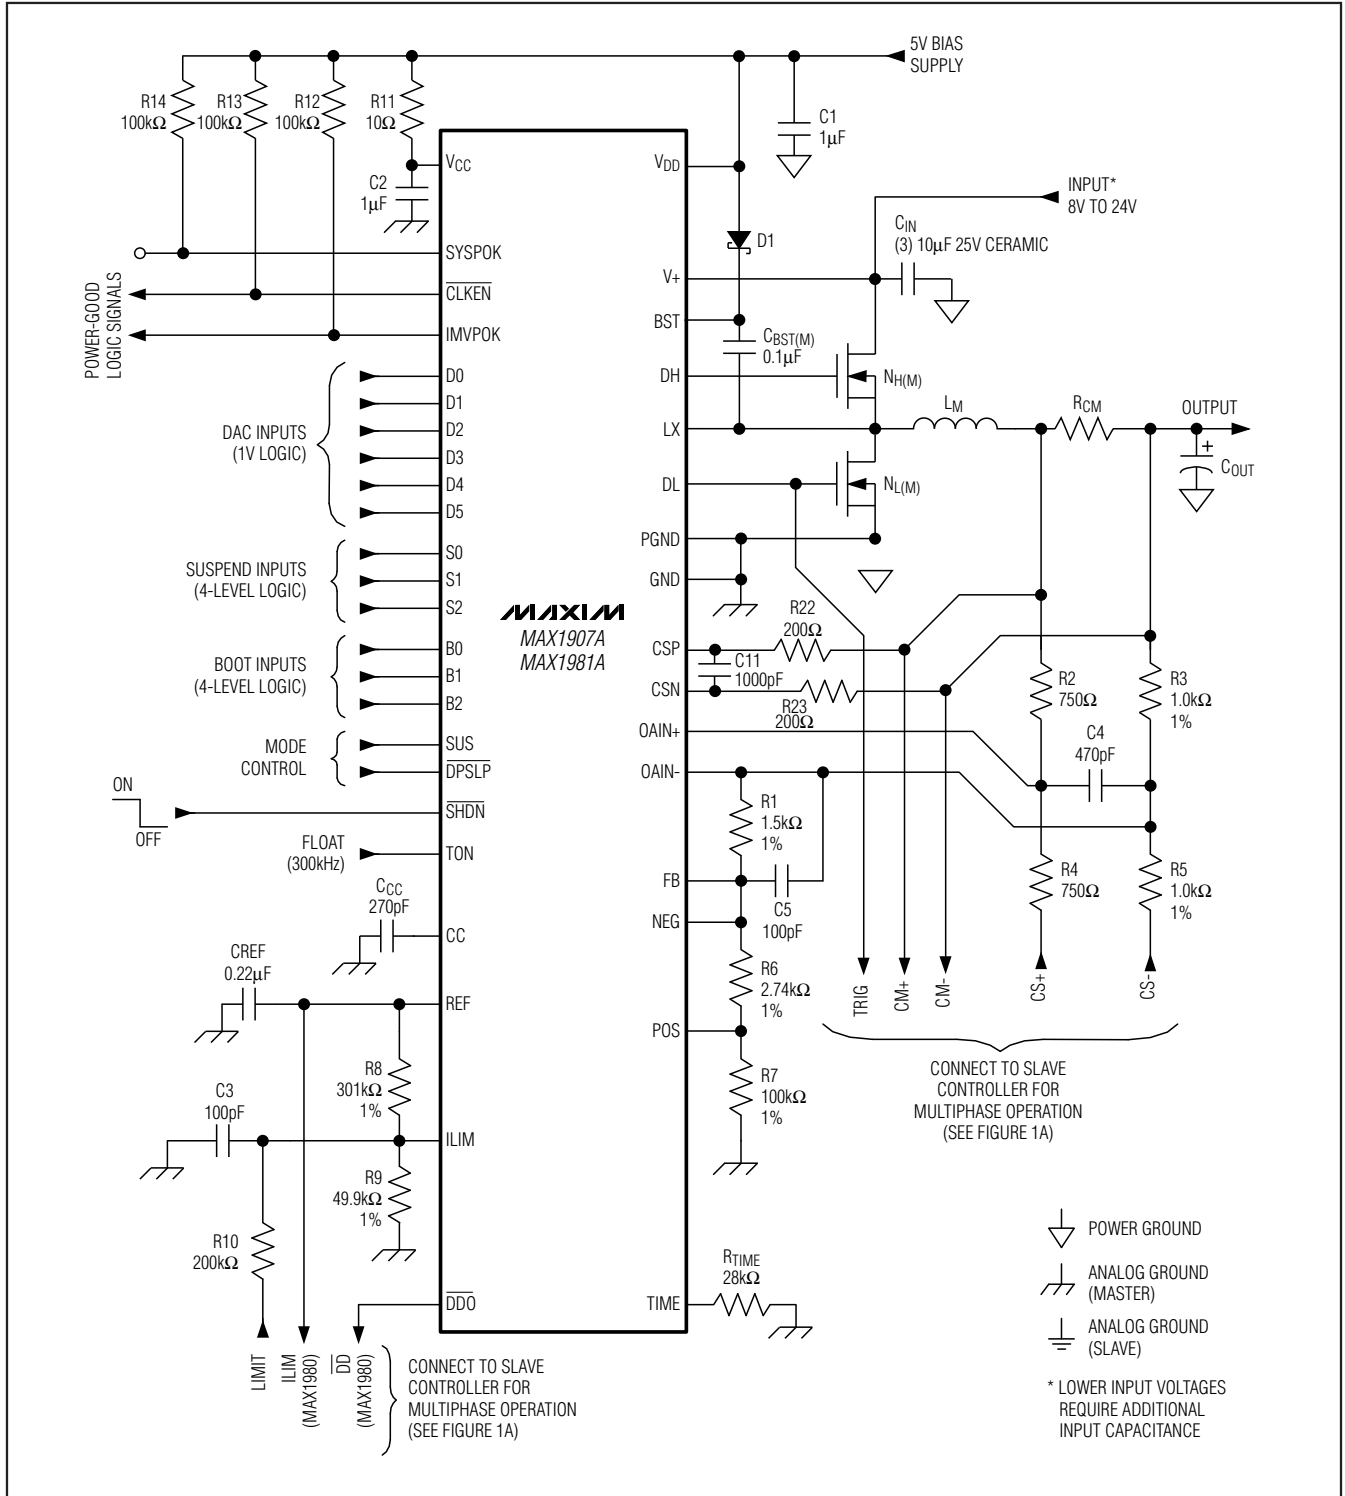
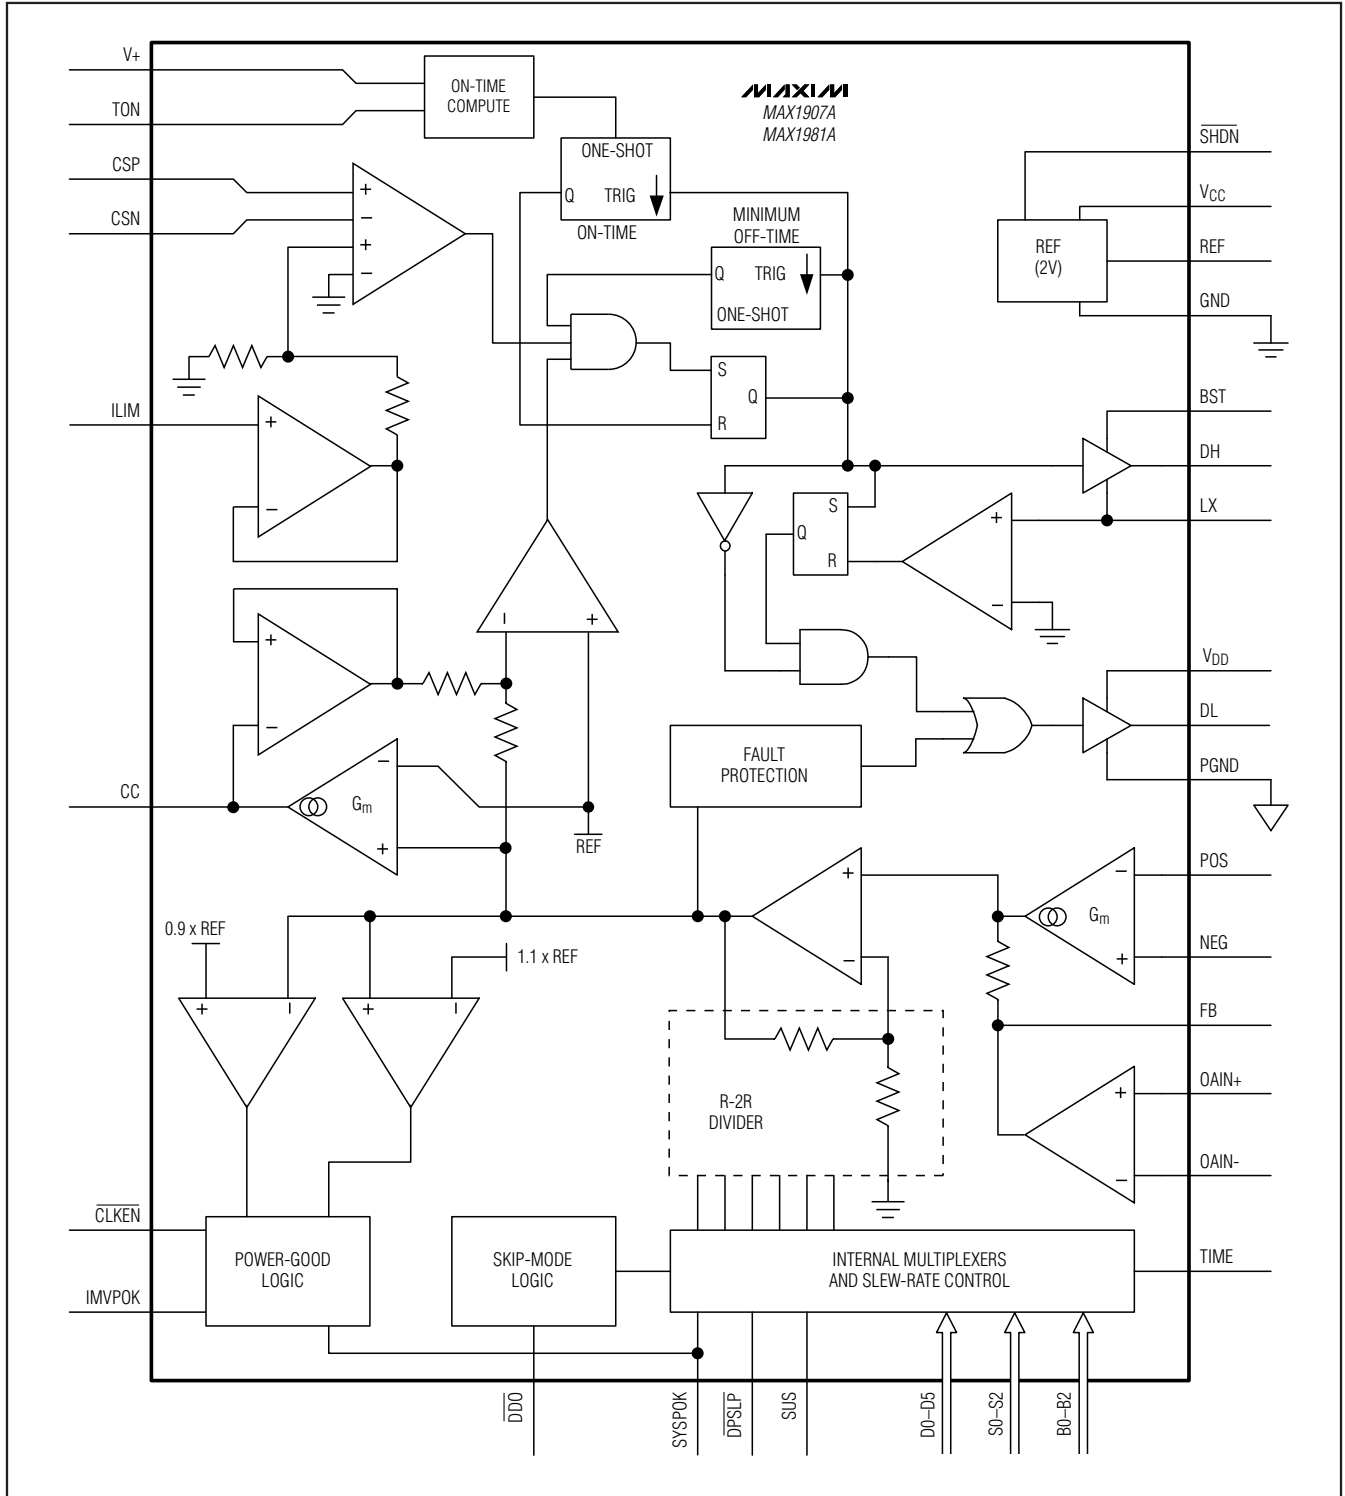

Figure 1. Standard Multiphase Application Circuit
Figure 2. MAX1907A/MAX1981A Functional Diagram
(Circuit of Figure 1, $V_+ = 12V$, $V_{CC} = V_{DD} = 5V$, B0–B2 set to 1.276V, S0–S2 set to 0.748V.)
Table 1. Component Selection for Standard Multiphase Applications (Figure 1)
The Quick-PWM control architecture is a pseudo-fixed-frequency, constant-on-time, current-mode regulator with voltage feed-forward (Figure 2). This architecture relies on the output filter capacitor's ESR to act as the current-sense resistor, so the output ripple voltage provides the PWM ramp signal. The control algorithm is simple: the high-side switch on-time is determined solely by a one-shot whose period is inversely proportional to input voltage and directly proportional to output voltage. Another one-shot sets a minimum off-time (400ns, typ). The on-time one-shot is triggered if the error comparator is low, the low-side switch current is below the current-limit threshold, and the minimum off-time one-shot has timed out.
Two transconductance amplifiers provide a fine adjustment to the output regulation point (Figure 2). One amplifier forces the DC average of the feedback voltage to equal the VID DAC setting. The second amplifier is used to create small positive or negative offsets to the feedback voltage, using the POS and NEG pins.
The POS/NEG amplifier is used to add small offsets to the VID DAC setting in deep-sleep mode ($\overline{DPSLP} = \text{low}$). The offset amplifier is summed directly with the feedback voltage, making the offset gain independent of the DAC code. This amplifier has the ability to offset the output by $\pm 200\text{mV}$. To create an output offset, bias POS and NEG to a voltage (typically V_{OUT} or REF) within their 0 to 2V common-mode range, and offset them from one another with a resistive divider (Figure 1). If V_{POS} is higher than V_{NEG} , then the output is shifted in the positive direction. If V_{NEG} is higher than V_{POS} , then the output is shifted in the negative direction. The output offset equals the voltage difference from POS to NEG.
In skip mode (SUS = high, or \overline{DPSLP} = low), an inherent automatic switchover to PFM takes place at light loads (Figure 3). This switchover is effected by a comparator that truncates the low-side switch on-time at the inductor current's zero crossing. The zero-crossing comparator senses the inductor current across the low-side MOSFET. Once $V_{LX} - V_{PGND}$ drops below 4mV (typ), the comparator forces DL low (Figure 2). This mechanism causes the threshold between pulse-skipping PFM and non-skipping PWM operation to coincide with the boundary between continuous and discontinuous inductor-current operation. The load-current level at which PFM/PWM crossover occurs, $I_{LOAD(SKIP)}$, is equal to 1/2 the peak-to-peak ripple current, which is a function of the inductor value (Figure 4). For a battery range of 8V to 24V, this threshold is relatively constant, with only a minor dependence on battery voltage:
The current-limit circuit employs a unique "valley" current-sensing algorithm that uses a current-sense resistor between CSP and CSN as the current-sensing element (Figure 1). If the current-sense signal is above the current-limit threshold, the PWM is not allowed to initiate a new cycle (Figure 2). Since only the "valley" current is actively limited, the actual peak current is greater than the current-limit threshold by an amount equal to the inductor ripple current. Therefore, the exact current-limit characteristic and maximum load
The inverting (OAIN-) and noninverting (OAIN+) inputs are used to differentially sense the voltage across the voltage-positioning sense resistor. The op amp's output is internally connected to the regulator's feedback input (FB). The op amp should be configured as a noninverting, differential amplifier as shown in Figure 1. The voltage positioning slope is set by properly selecting the feedback resistor connected from FB to OAIN- (see the *Setting Voltage Positioning* section). For applications using a slave controller, additional differential input resistors (summing configuration) should be connected to the slave's voltage-positioning sense resistor (Figure 1). Summing together both the master and slave current-sense signals ensures that the voltage-positioning slope will remain constant when the slave controller is disabled.